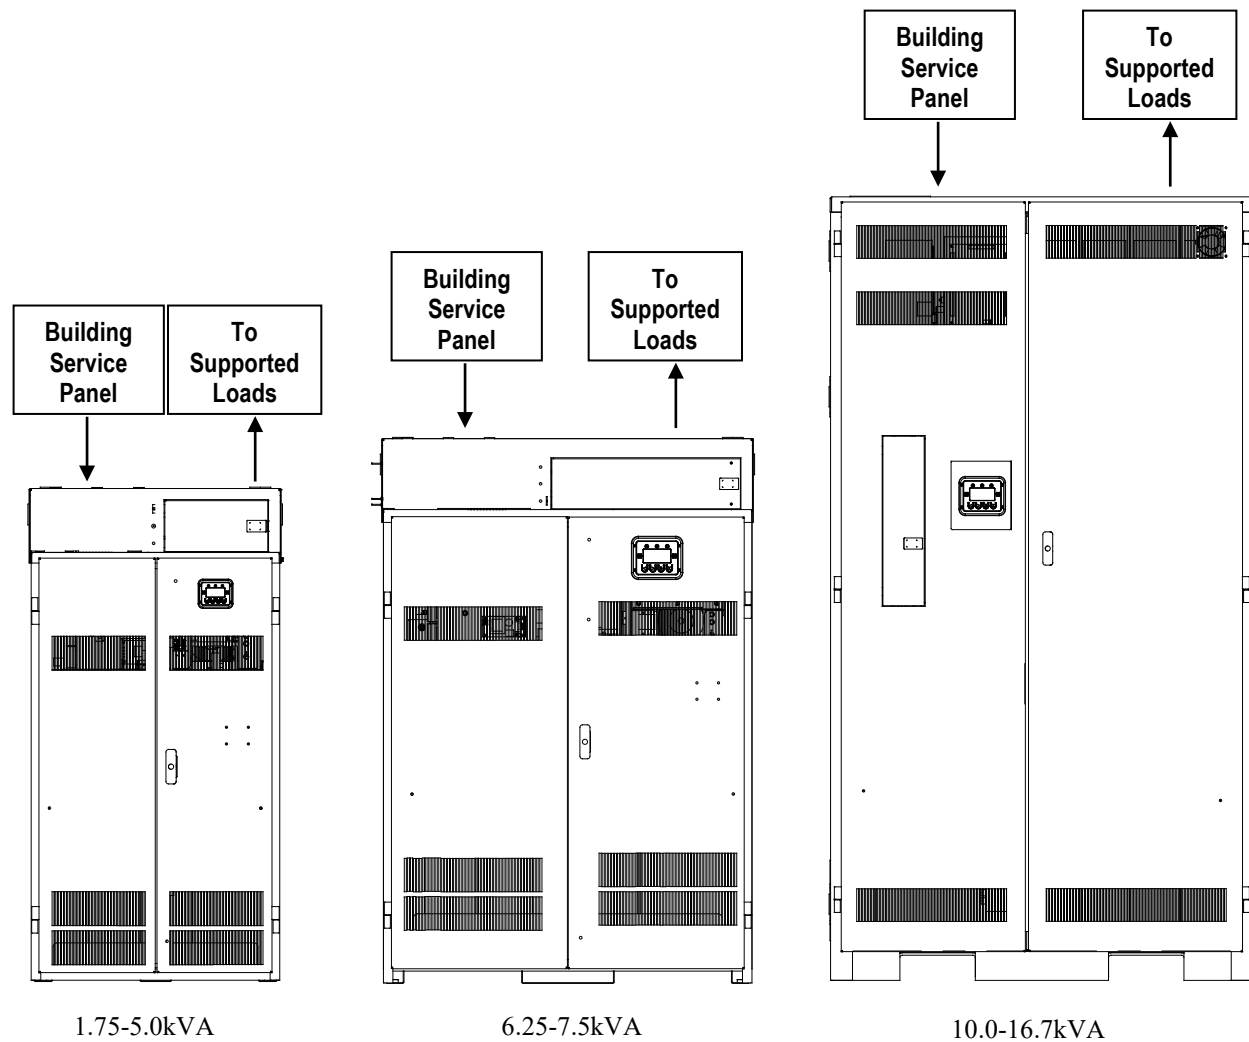

Figure 4.1 Typical Hardwired Installation
Figure 4.1 shows typical installations of system. Standard & OSHPD 1.75 kW, 2.5 kW, 3.75 kW, 5.0 kW, 6.25 kW, 7.5 kW, 10.0 kW, 12.5 kW, and 16.7 kW models **do not** have external battery cabinets.
9. Remove knockouts for AC Input and AC Output in the top or left and right side of the system (See figure 4.1). AC input conductors and AC output conductors must be installed in separate conduits, and emergency and non-emergency output circuits must be installed in separate conduits.